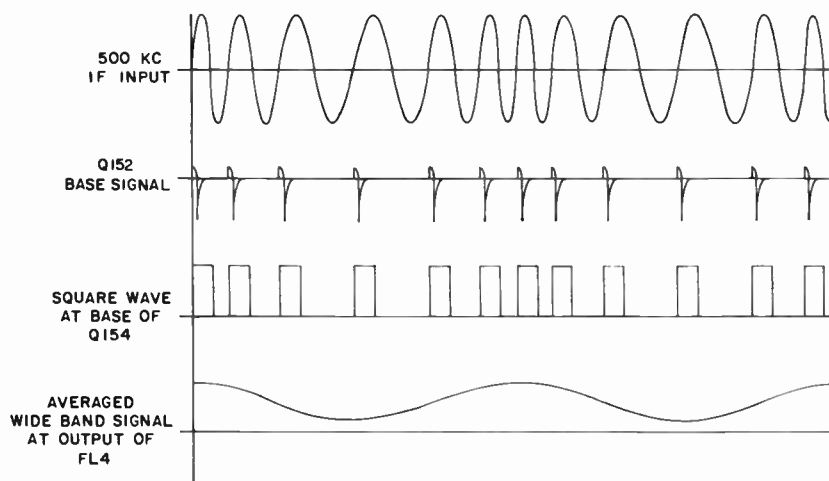

Figure 4-3. Pulse Counting Demodulator Waveforms with Sine Wave Modulation
**4.3.1.2 PULSE COUNTING DEMODULATOR CIRCUITS.** With S2 in the OFF position, the 500-kc mixer output is fed through CR150 to pulse generator Q150. This transistor, in conjunction with Q151, takes the sine wave input FM signal and changes it to a square wave whose polarity follows the input i-f signal polarity and phase. The square wave output of Q151 is then fed to a differentiating circuit consisting of capacitor C153 and R161. This circuit changes the pulse generator square wave output to positive and negative spikes which have leading edges with a sharp rise time. The negative pulses from C153 and R161 are blocked by diode CR151 so only the positive pulse is seen by the base of transistor Q152. Transistors Q152 and Q153 form a single shot multivibrator which produces a pulse with a fixed time length and magnitude each instant a pulse is received through diode CR151. The output from the multivibrator is then a series of pulses with a fixed length and magnitude whose spacing depends upon the incoming frequency. Figure 4-3